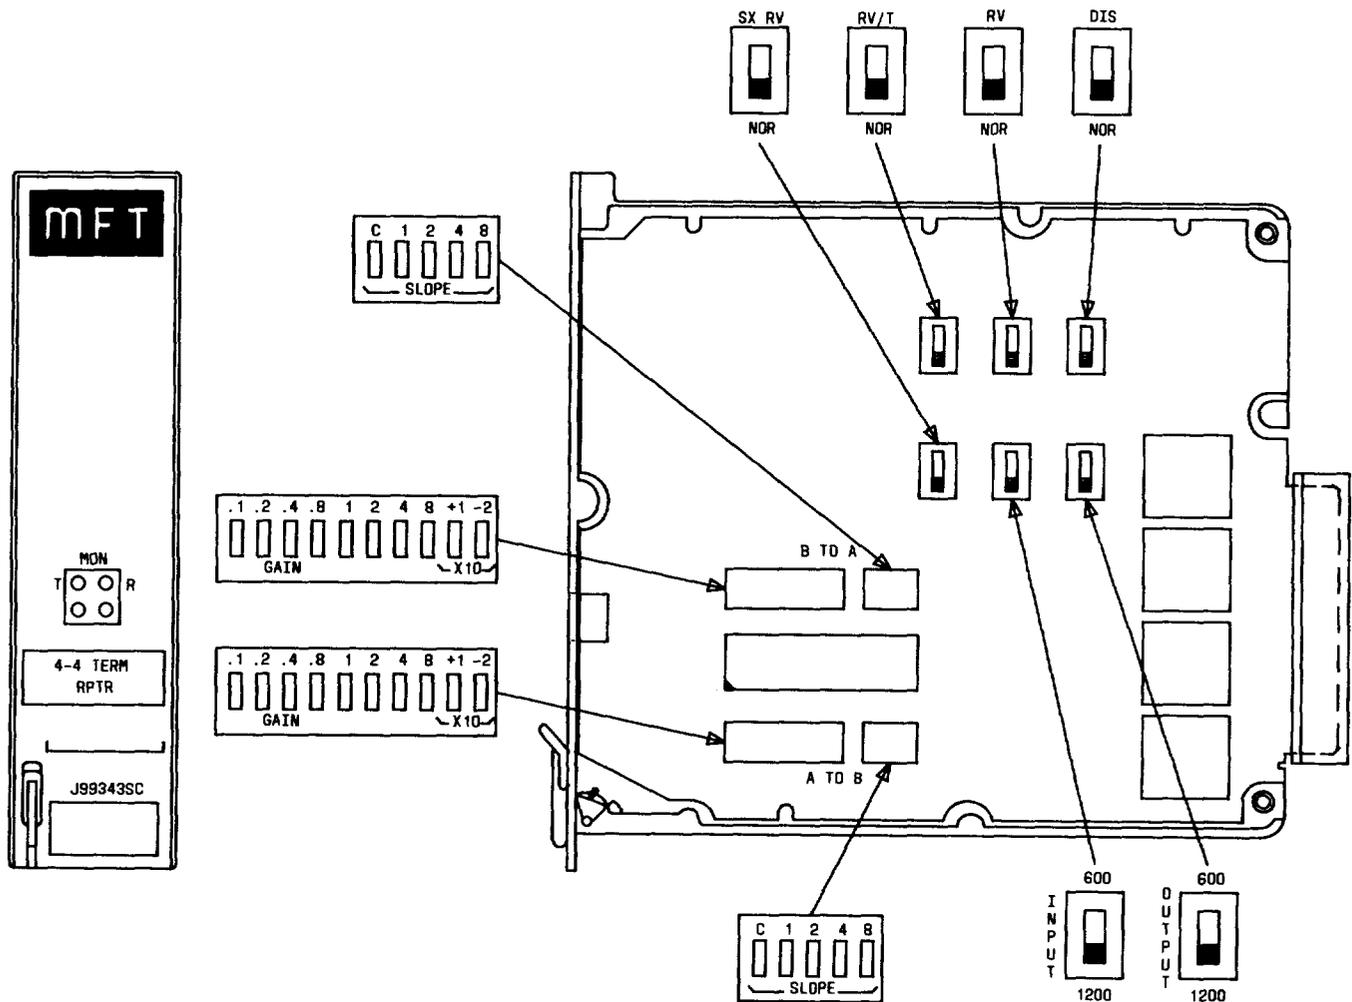

Fig. 1—4-4 Wire Transmission Unit J99343SC Component Layout
**2.01** The J99343SC unit is a low cost alternative of the J99343SA,L3 in terminal applications and the J99343SB,L3 in intermediate applications. The SC repeater provides gain or loss and equalization in both directions of transmission. The J99343SC is shown in Fig. 1. Figure 2 is a block diagram of the unit.
**2.07** The rocker-type switches for a particular function, which are described in the following paragraphs, are operated when depressed toward their respective designation. The sum of the values of the switches operated is the setting for that function. The unit controls are illustrated in Fig. 1.